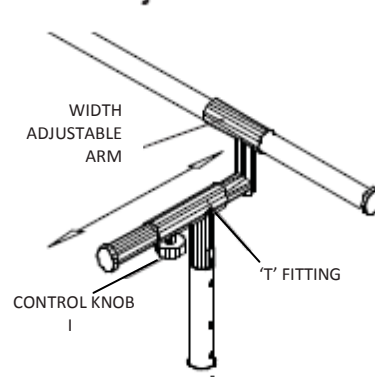

Figure 8: Height & Width Adjustment
2. Raise or lower the Adjustable height post to the desired height, and insert the locking pin back into upright to lock as shown in Figure 8.